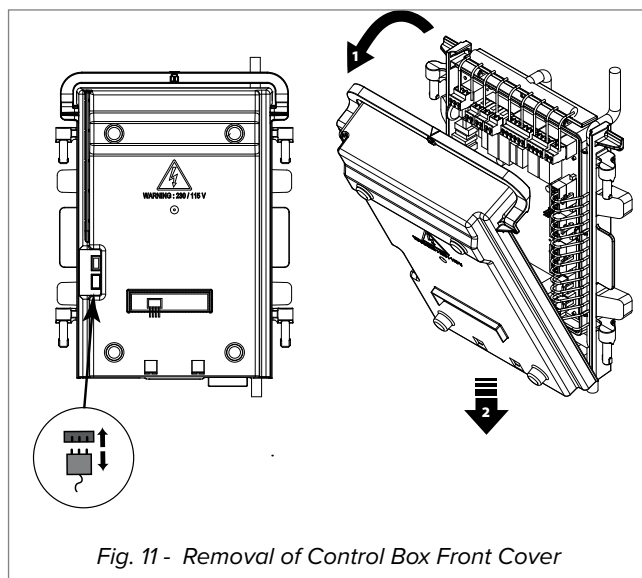

Fig. 11 - Removal of Control Box Front Cover
6. Disconnect the ignition cable from the front of the electronic box (See *Fig. 11*).
1. Open the front cover of the electronic box (See *Fig. 11*). Discard the cover.